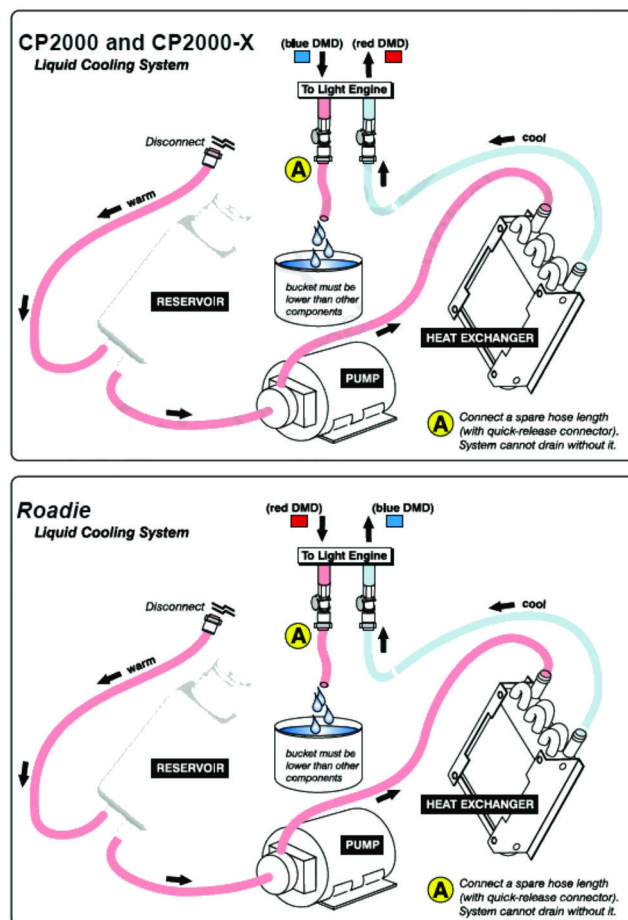

Figure 5 Drain and Flush
1. Attach the 1m hose to the exposed quick coupling connector – this point is shown as **A** in **Figure 5** and direct the raw end of the hose into a bucket placed well below the projector. Ensure the bucket is capable of holding up to 2 liters of liquid. Remove the reservoir cap.